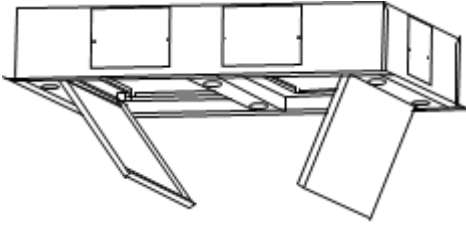

Fig 4
1. Open the 2 panels to reveal the grease filters (Fig 4).